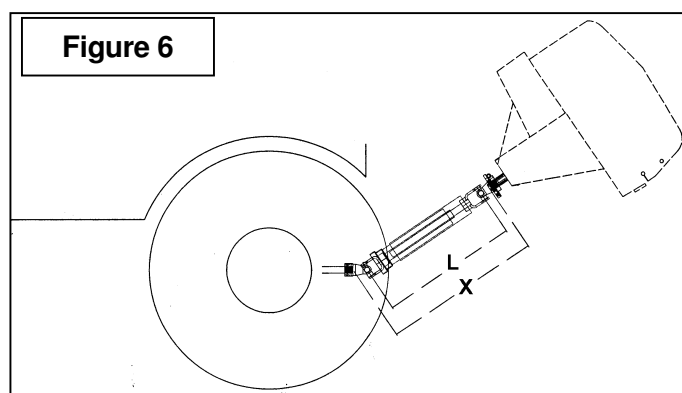

Figure 6
1. To determine the "L" length for your tractor model first find the "X" factor by measuring the horizontal distance between the end of the tractor's drive shaft and the end of the snowblower's driven shaft when the snowblower is in transport position as shown on Figure 6.